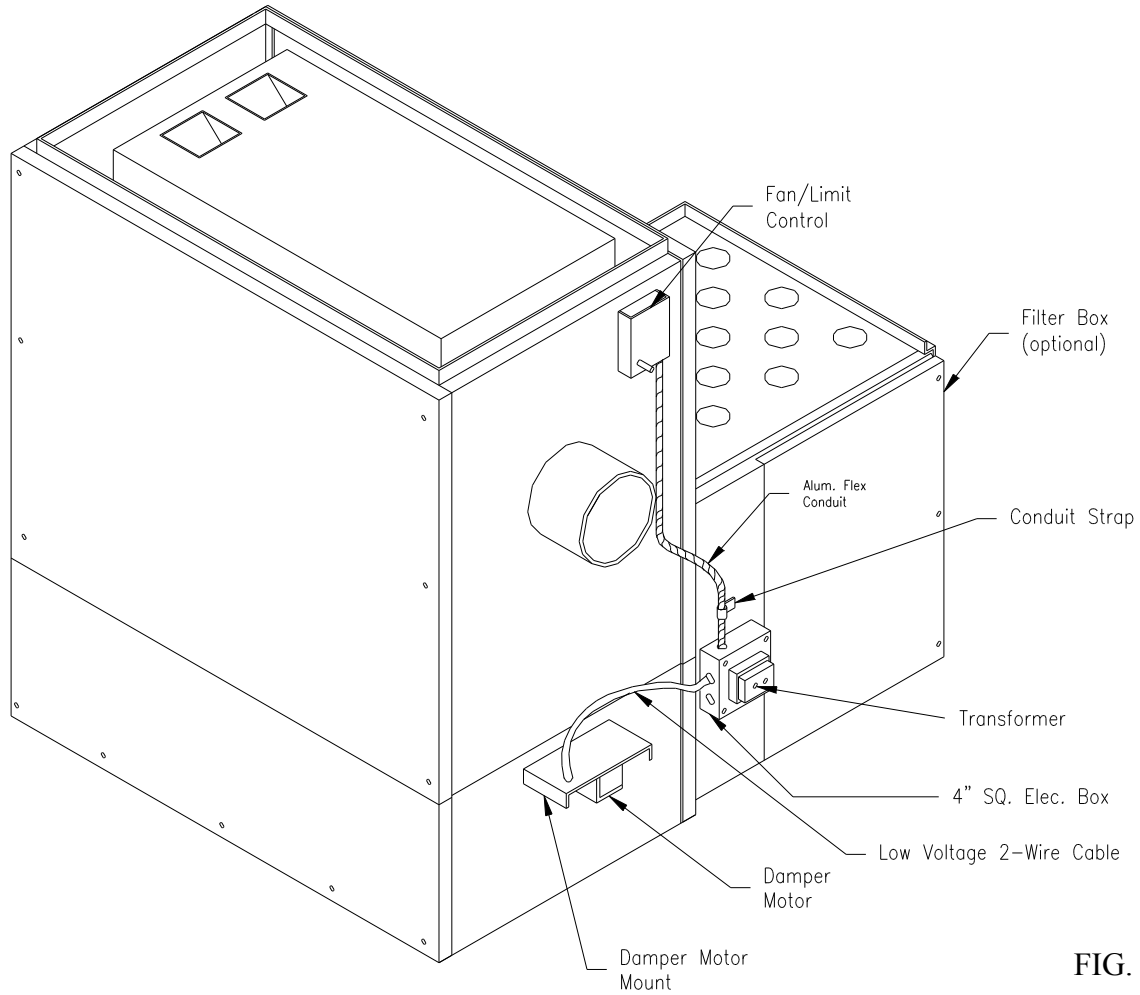

FIG. 9
(See fig. 9)
(See fig 9)
-Connect the two wire section of Low Voltage Cable from the Damper Motor, through the hole in the damper motor mount, and through a knock-out on the side of the electrical box. When installing the transformer slip the motor leads through a knock-out hole on the transformer base plate. Use the Strain Relief Bushing supplied to secure the damper motor cable to the electrical box. (See Fig 9)